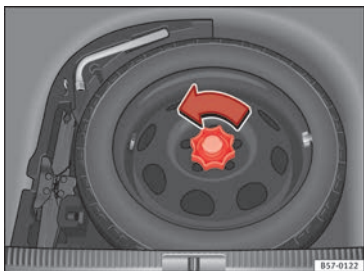

Fig. 246 Compact temporary spare wheel: raised floor panel.
- Turn the thumb wheel anti-clockwise »» Fig. 246.